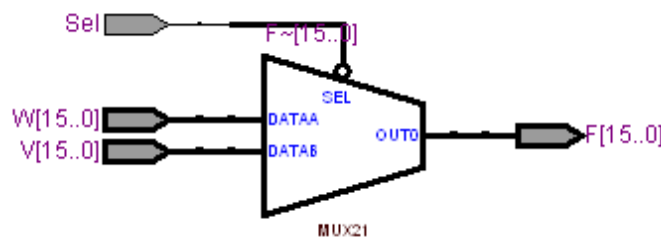

Figure 29: The multiplexer subcircuit.
- Details of subcircuits can be seen by clicking on the box that represents a subcircuit. Double-click on the *mux2to1* box to obtain the image in Figure 29. It shows the multiplexers used to choose either the *Areg* or *Z* vector as one of the inputs to the adder, under control of the *SelR* signal. Observe that the multiplexer data inputs are labeled as specified in the Verilog code for the *mux2to1* module in part *b* of Figure 12, namely as *V* and *W* rather than *Areg* and *Z*.